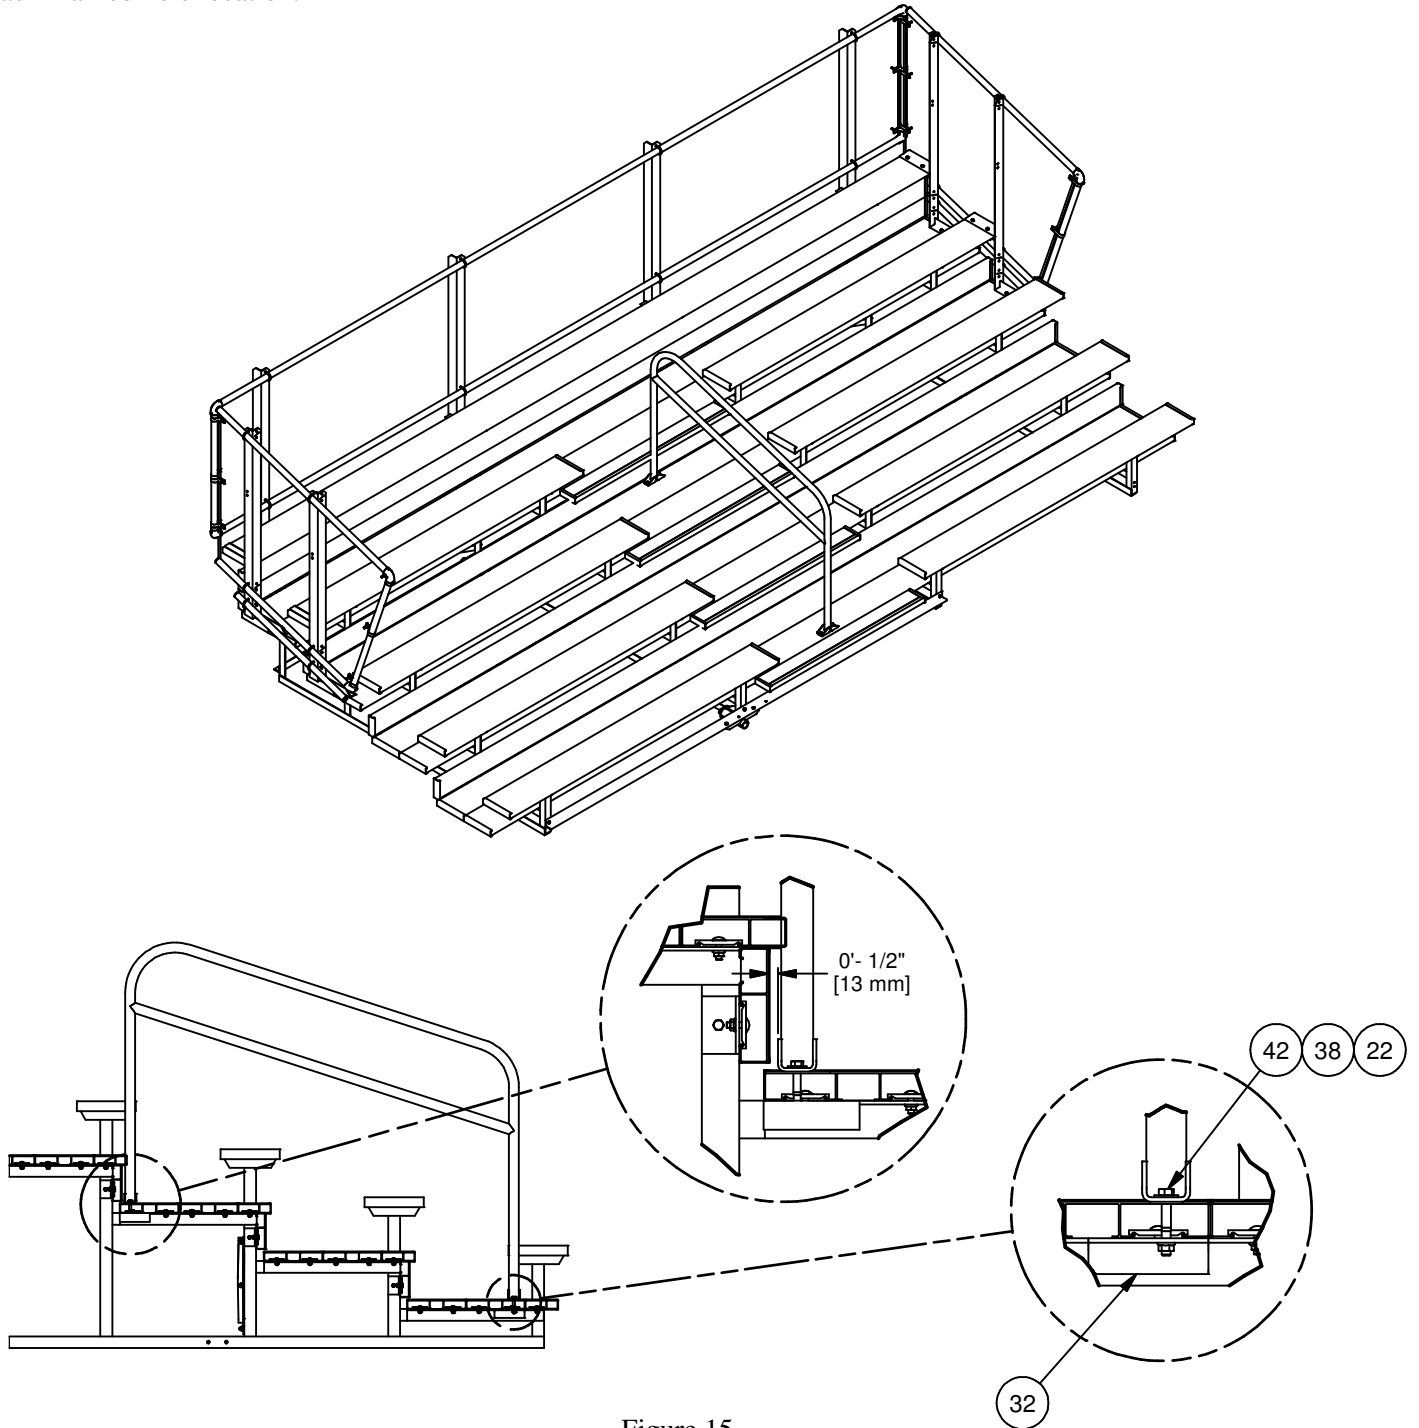

Figure 15
21. Install the hand rails in the center of the aisle. The hand rails will be located at foot rows 2 and 4. See figure 15 for reference.